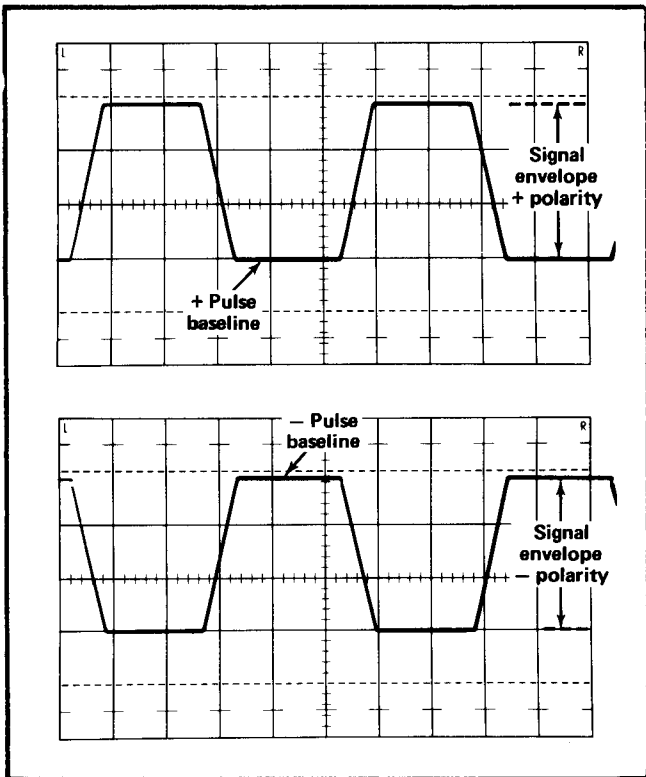

Fig. 6-9. Test oscilloscope display for checking adjustment of negative-going pulse DC level.
- r. CHECK FOR—Test oscilloscope display with the signal envelope of the negative going pulse at the same level as that of the positive going pulse ± 1 mm (see Fig. 6-9).